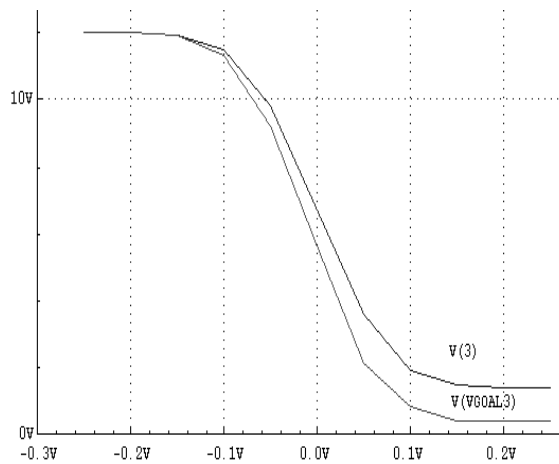

Figure 6-5 ERR Calculation
In this example, SmartSpice computes a value ERR2, which is the difference between the DC transfer curve V(3) and V(VGOAL3) (see Figure 6-5).